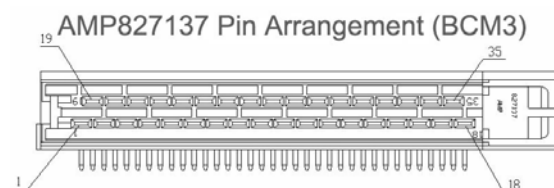
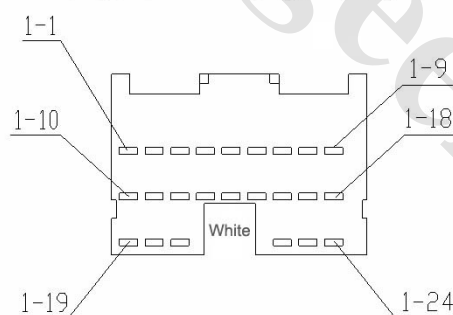
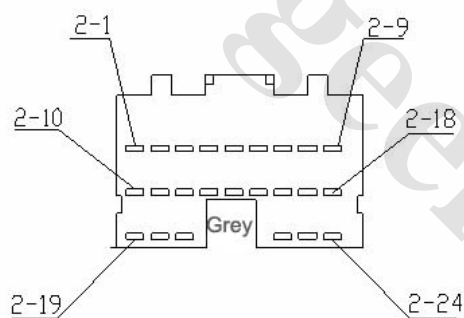

Fig. 4-47
Fig. 4-48
Fig. 4-49
1. For pin definition of central door lock of body control module (BCM), refer to Fig. 4-47, Table 4-8, Fig. 4-48, Table 4-9, Fig. 4-49, and Table 4-10.